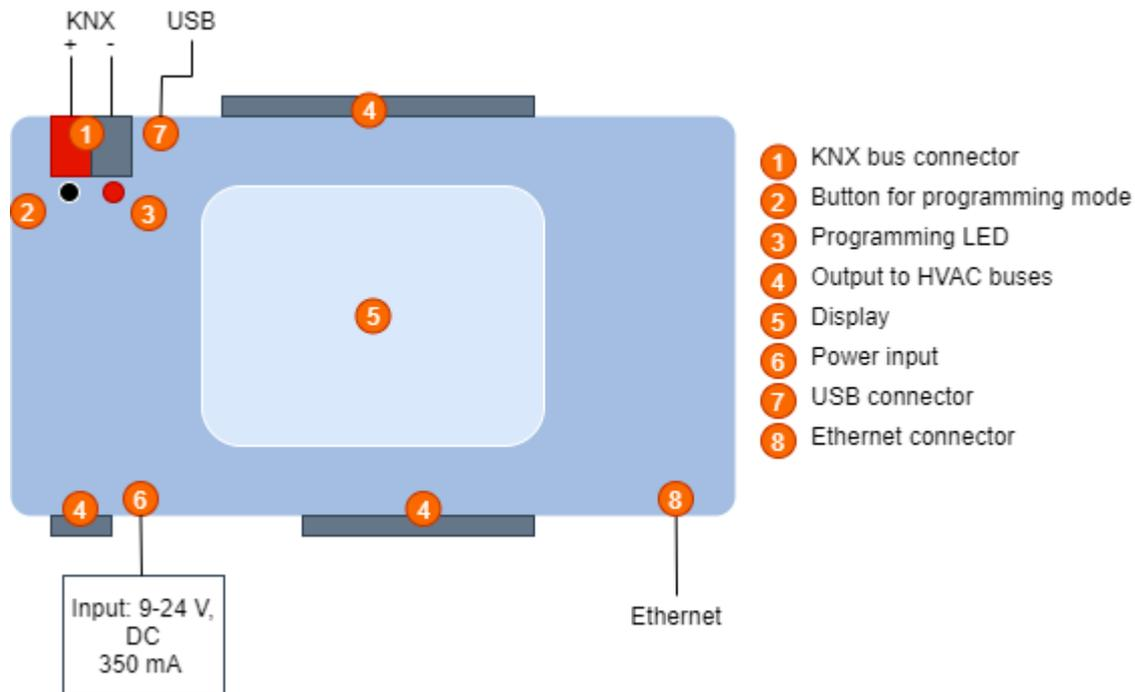

Figure 1
1. Connect CoolMasterNet to the KNX bus connector (connector 1 on Figure 1)